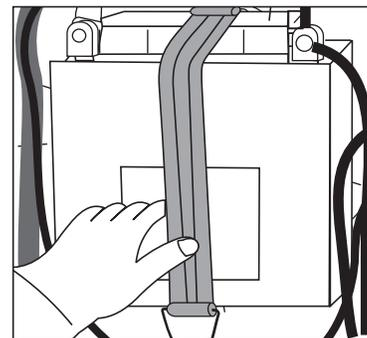

Fig. 42
- 6.3.4 Connect the fastener belt first to the lower hook, then hold the battery firmly with one hand, stretch the belt and fasten it in the upper hook. Recheck if the battery is fastened firmly (Fig. 42).